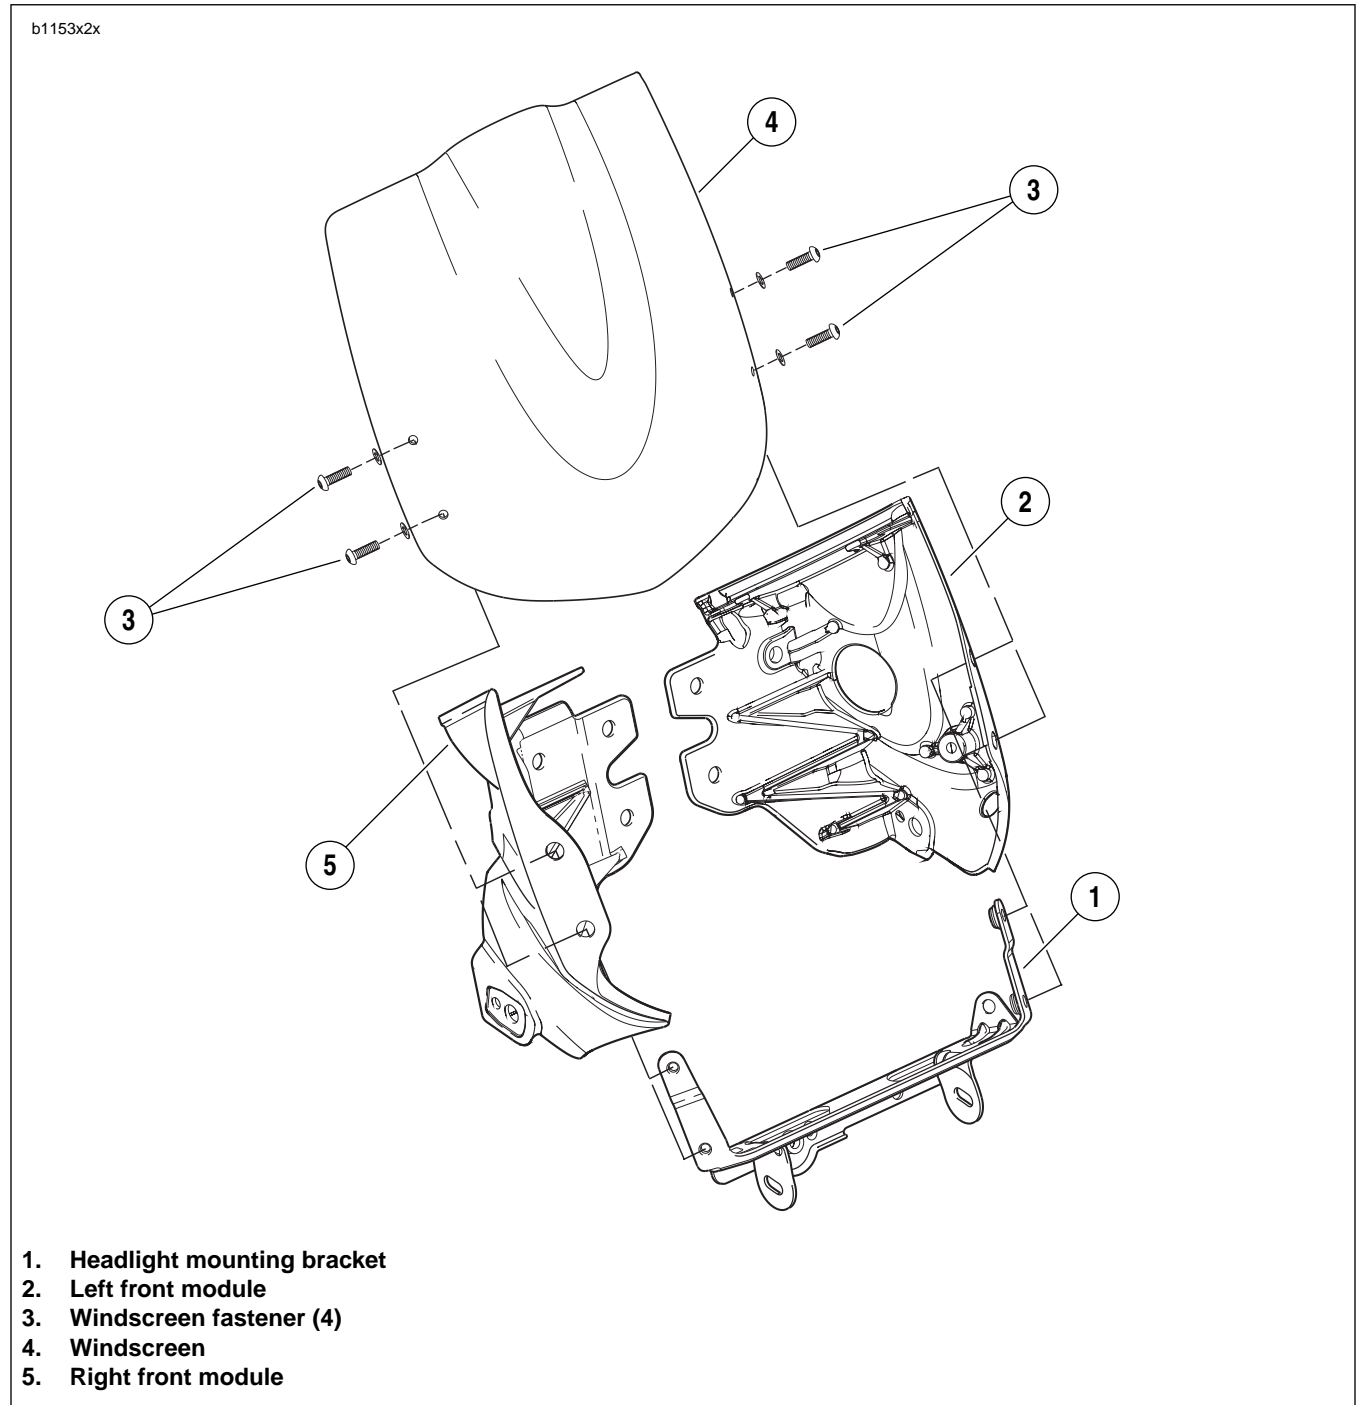

Figure 2-126. Front Windscreen
1. See Figure 2-126. Remove four windscreen fasteners (3).
2. Remove windscreen (4).
1. See Figure 2-126. Position windscreen (4) onto left and right front modules (2, 5).
2. Install four fasteners (3) and tighten to 10-12 **in-lbs** (1.1-1.4 Nm).